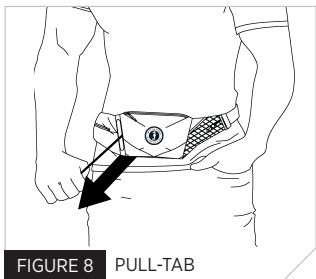
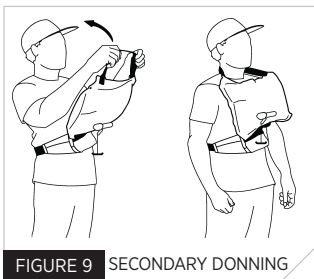
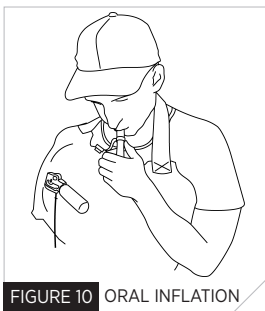
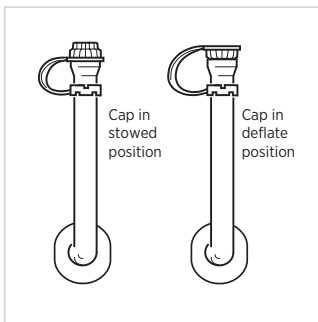

FIGURE 8 PULL-TAB
FIGURE 9 SECONDARY DONNING
FIGURE 10 ORAL INFLATION
FIGURE 12 CLOSE-UP VIEW
Activate the inflation system by jerking firmly downward on the pull-tab (Fig. 8). The flotation device should fully inflate within five seconds. Put the neckstrap over your head to secure the bladder against your torso (Fig. 9).
To orally inflate the flotation device, first locate the oral inflation tube by opening the pouch and unfurling the bladder. Remove the cap from the end of the oral inflation tube and blow into the tube until the flotation device is fully inflated (Fig. 10). Place the oral tube cap back in the stowed position (Fig. 12). Put the neckstrap over your head to secure the bladder against your torso (Fig. 9).
1. To deflate the flotation device, reverse the oral inflator cap and insert it into the valve. The cap will not lock in the deflate position, so you must hold it in place (Fig. 12).
2. Gently squeeze the flotation device until all gas has been expelled. Put the cap back in its stowed position on the oral inflator (Fig. 12).